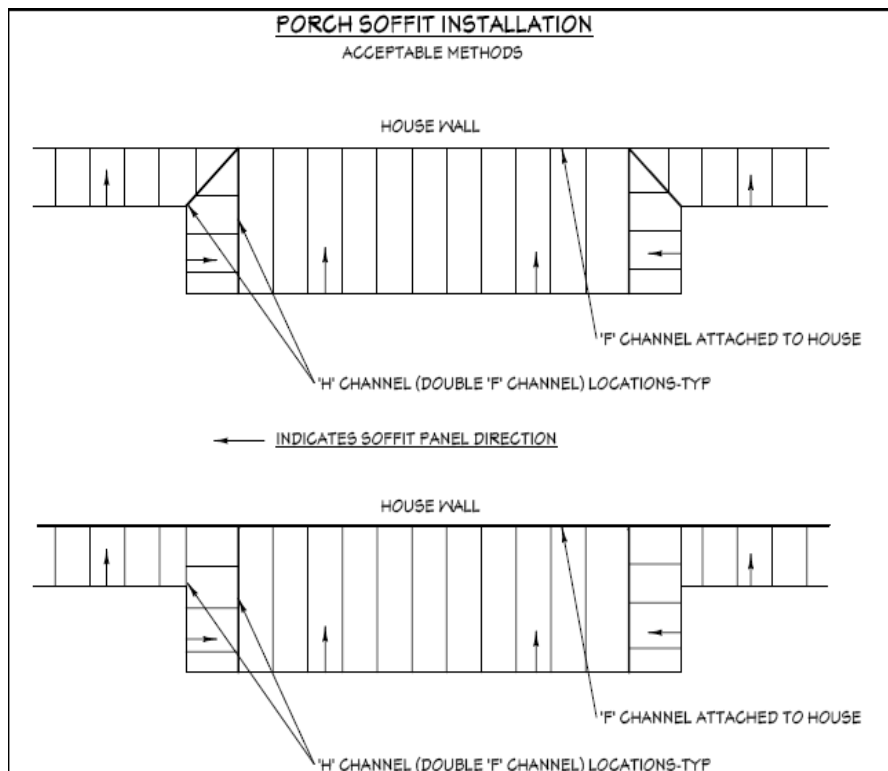

Figure 11-14. Porch Soffit.
4. Install the porch ceiling soffit using one of the two patterns shown in Figure 11-14. While both are acceptable installation methods, the second pattern is easier to install. After installation, mark the location of porch ceiling lights on the soffit panels using painter's tape or marker.